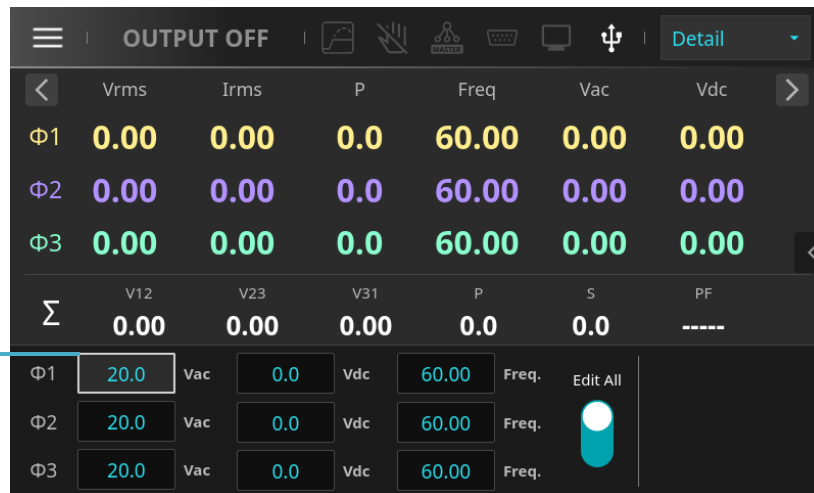

Figure 4-7: Use the knob to select a parameter item
- The rotary knob can be used to select parameter settings. On the device standby main screen, turning the knob clockwise will move to the next parameter setting item, and the selected item will be highlighted with a white frame (as shown in Figure 4-7). Turning the knob counterclockwise will select the previous parameter setting item.